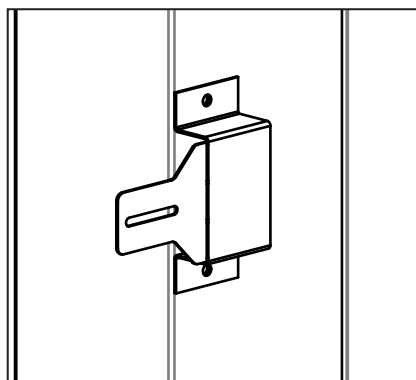
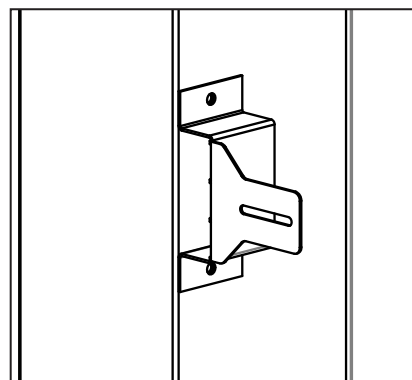

Figure 26: Nailing Flange Flat
Figure 27: Nailing Flange Assembled
There are four (4) nailing flanges to secure the unit to the framing, they are assembled flat from the manufacturer (see Figure 26). Flip the nailing flanges up 180 degrees and secure in place using the T-20 screws above pre-installed in the cabinet. Bend the flanges 90 degrees making them flush with the cabinet face (see Figure 27).